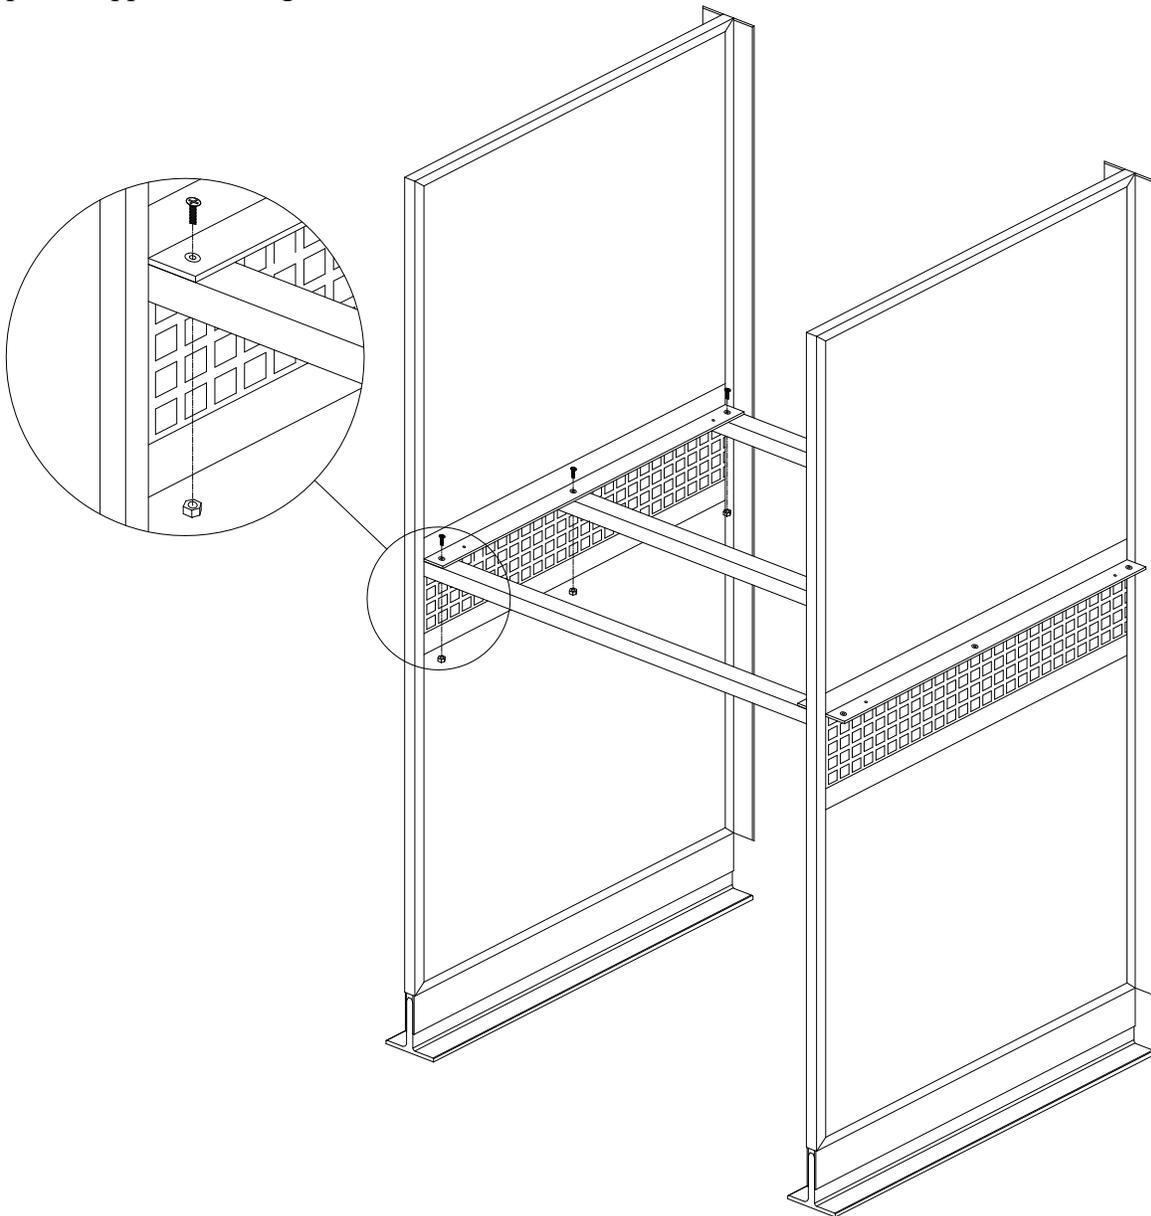

**Figure D.3**
6. Position the next division panel in place and connect with the #10-32 x 5/8" TEK screws provided. (Figure D.3).